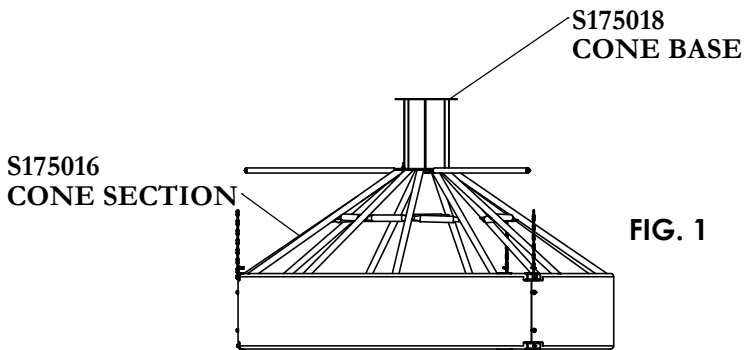

FIG. 1
Arrange the three sections [ S175016 ] as shown in Fig. 1 above. Set the base [ S175018 ] on top of the sections as shown. Bolt the base to the three sections using (6) each 3/8" x 2" bolts, - (12) each 3/8" flatwashers, - (6) each 3/8" lockwashers, - and (6) each 3/8" nuts. [HAND TIGHTEN NUTS.]